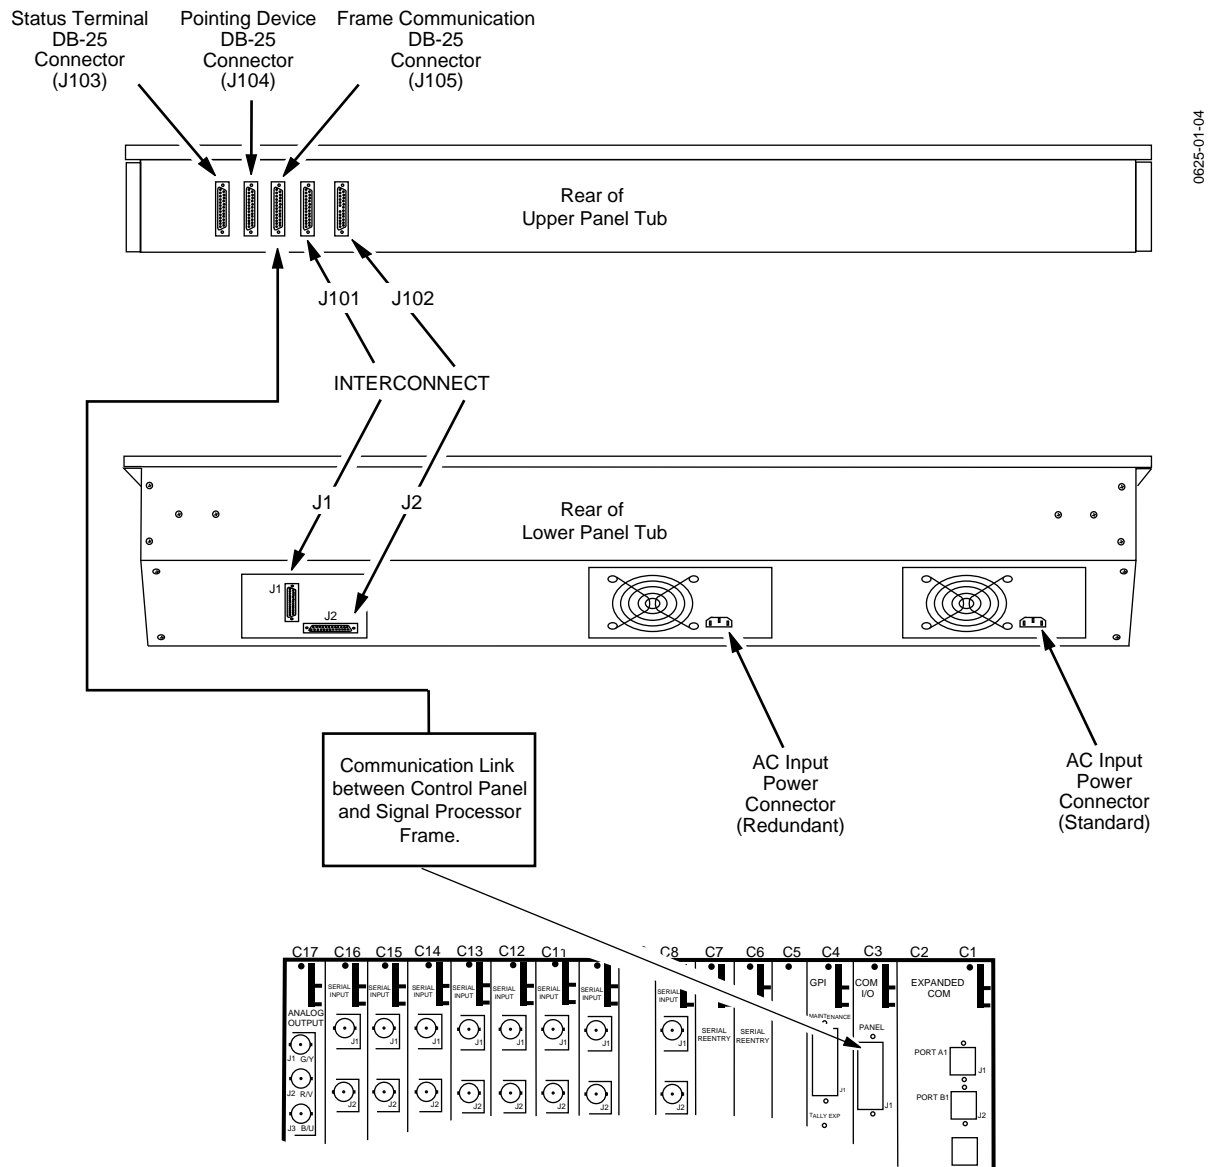

Figure 2-36. Model 4000-3 Control Panel Connections
1. Connect the interconnect control cable (Frame Communication) to the connector marked J105 on the rear of the upper Control Panel as shown in Figure 2-36.
2. Connect the other end of the Frame Communication cable to J1 (PANEL) on the COM I/O Module in the top rear bay (Slot C3) of the Signal Processor Frame illustrated in Figure 2-36. This cable length may be extended to a maximum of 300 meters.